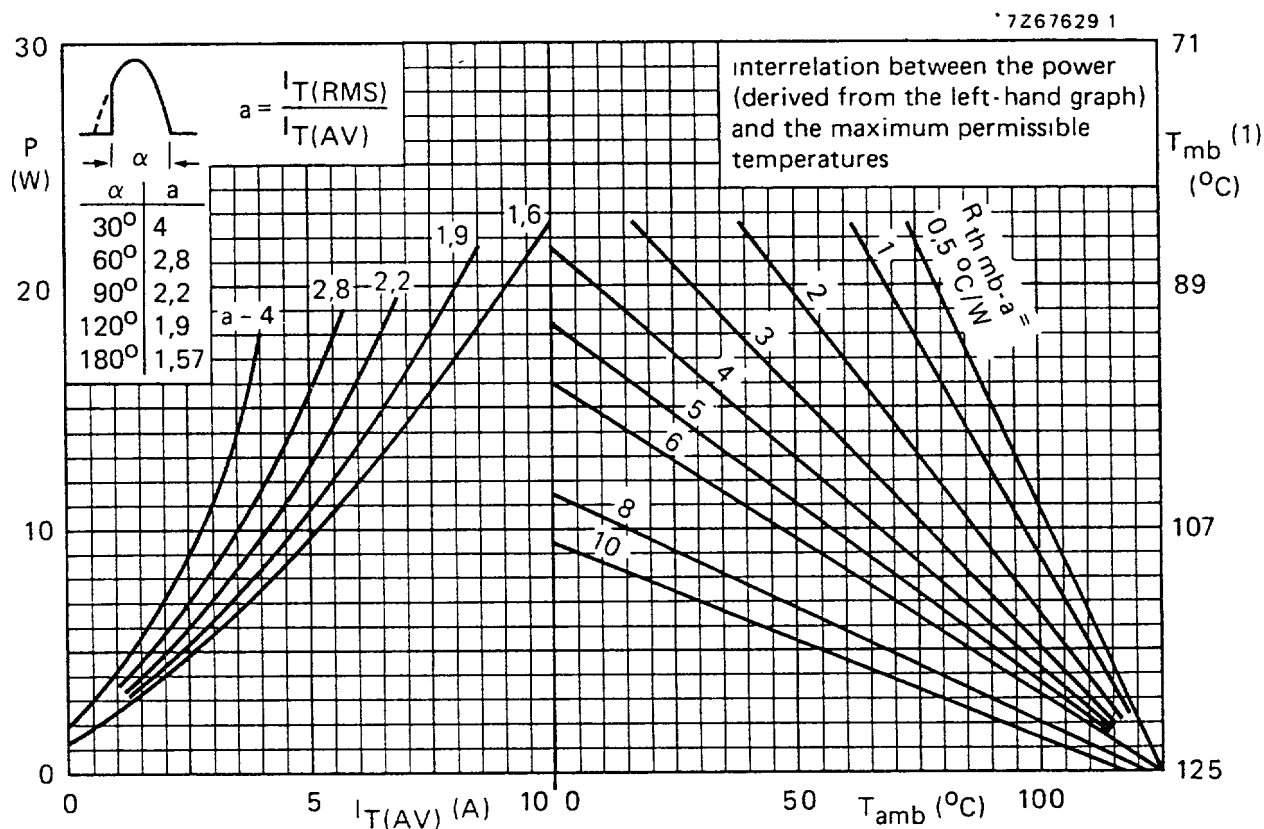

Fig. 3 (1) T_{mb} -scale is for comparison purposes only and is correct only for $R_{th mb-a} \leq 6 \text{ } ^\circ\text{C/W}$.
* To ensure thermal stability: $R_{th j-a} < 4$ °C/W (d.c. blocking) or < 8 °C/W (a.c.). For smaller heat-sinks $T_{j max}$ should be derated. For a.c. see Fig. 3.